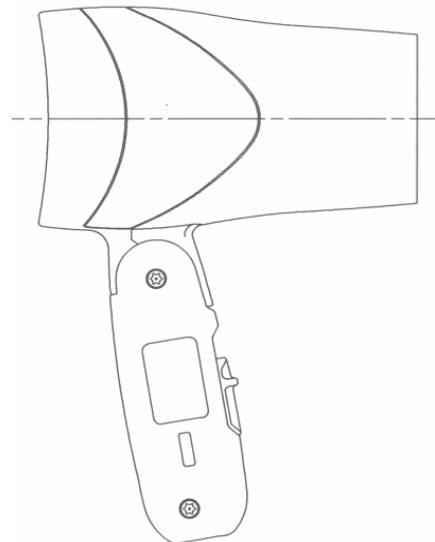

Figure 9
(12) Assembly handle A with handle B and drive with 2 torque screw as shown in Figure 9.